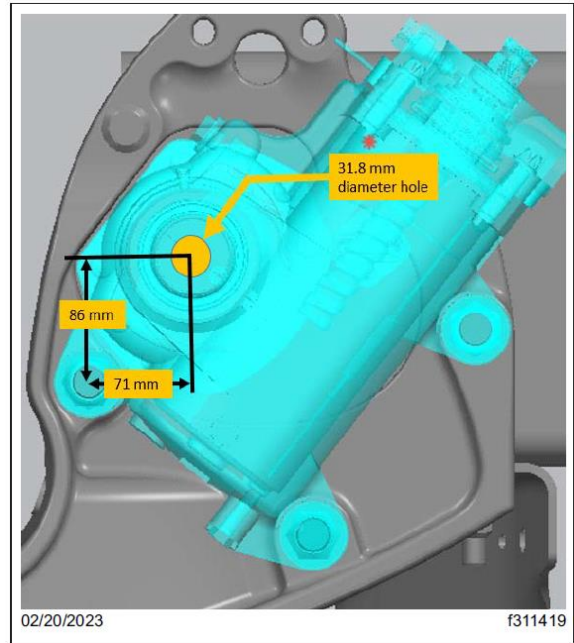

Fig. 3, Hole Location with the Steering Gear
5.6. Install the TAS85 steering gear on the left-hand side frame rail as shown in **Fig. 3**. For instructions, see **Section 46.05** of the *108SD/114SD Workshop Manual*.